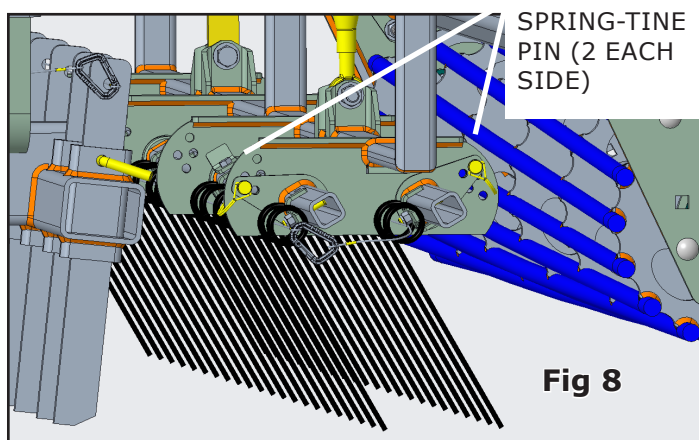

Fig 8
3. To adjust the angle of the Spring-Tines, remove the four pins (two on each side) and turn the square tubing until you've achieved your desired angle (**Fig 8**).